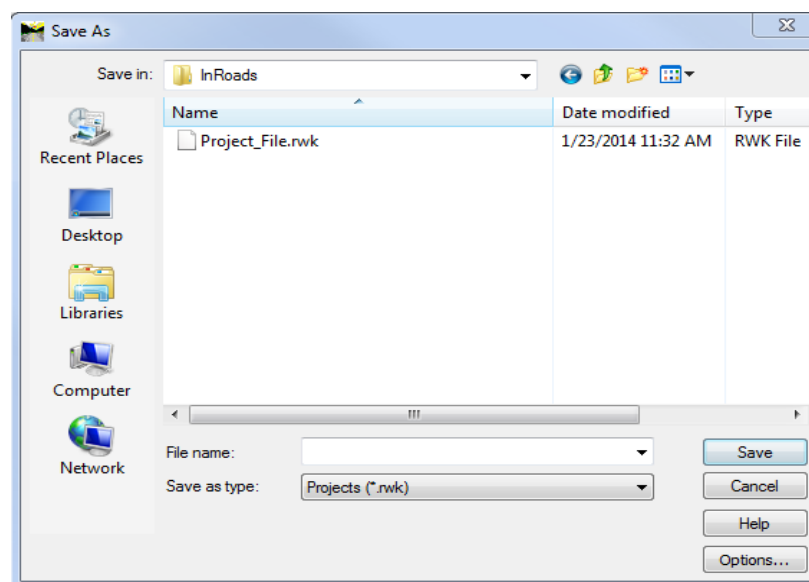

Figure 1-10 InRoads Save As Projects Dialog Box
- N. On the Save As dialog box (Figure 1-10) data point in the File name field and type in the name of the file, for this lab type in **Project_File**. Click the **Save** button and then click **Cancel**.